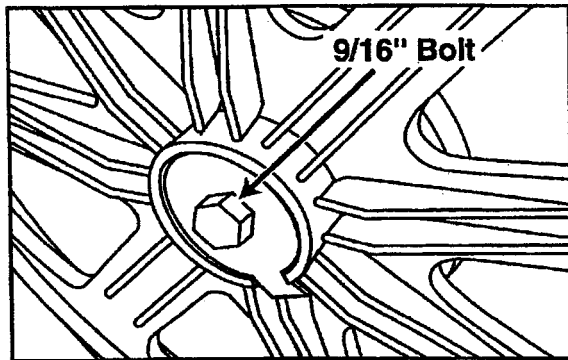

Figure 2-46
3. Remove the bolt and the spider shaft will be exposed. Carefully slide the pulley off the spider shaft, using a "rocking/side-to-side" motion. If the pulley has a snug fit, use your Spanner Wrench to apply enough leverage to pry the pulley off the shaft (*Figure 2-46*).